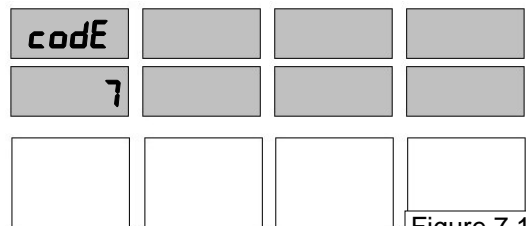

Figure 7.1
1. Press the 7 button and then the **MODE** button on the keypad. The number 7 appears in the price display and the number of Sides appear in the main display. The default setting is for 2 Sides. See Figure 7.1.